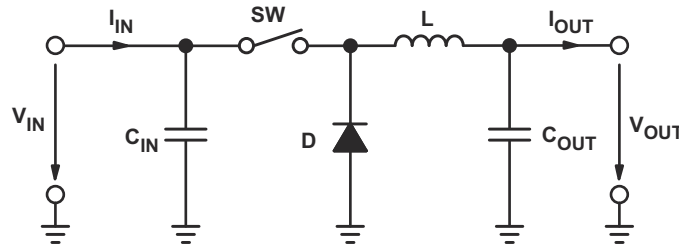

Figure 1-1. Buck Converter Power Stage
Figure 1-1 shows the basic configuration of a buck converter where the switch is integrated in the selected integrated circuit (IC). Some converters have the diode replaced by a second switch integrated into the converter (synchronous converters). If this is the case, all equations in this document apply besides the power dissipation equation of the diode.